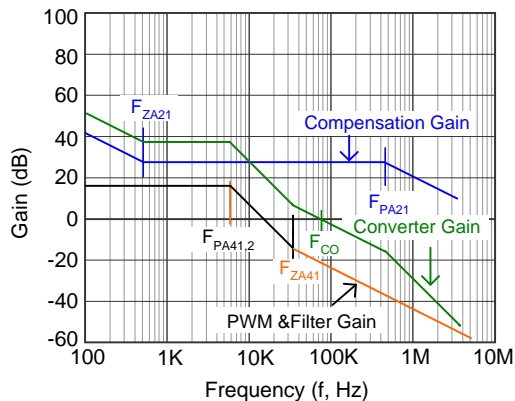

Figure 3. Converter Gain vs. Frequency
where A1(S) is the transfer function of the resistor-divider, A2(S) is the transfer function of the feedback compensation network, A3(S) is the transfer function of the PWM modulator, A4(S) is the transfer function of the output LC filter, and A_{CL}(S) is the transfer function of the closed-loop control system. Refer to figure 3. The Pole and Zero fre-